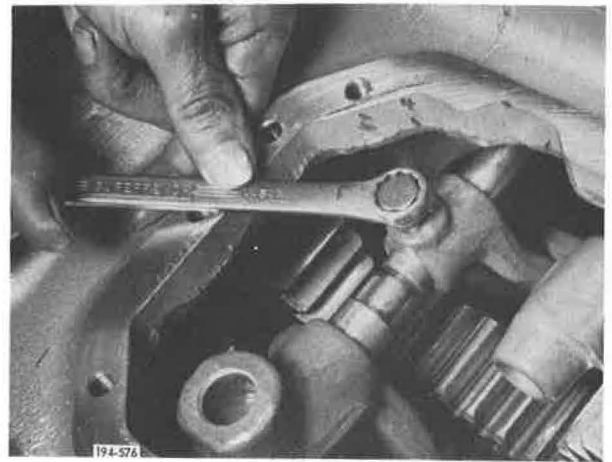

Figure 5-679. Removing Setscrew
14. Remove set-screws from first speed shift fork and second/third speed shift fork. See **Figure 5-679**.